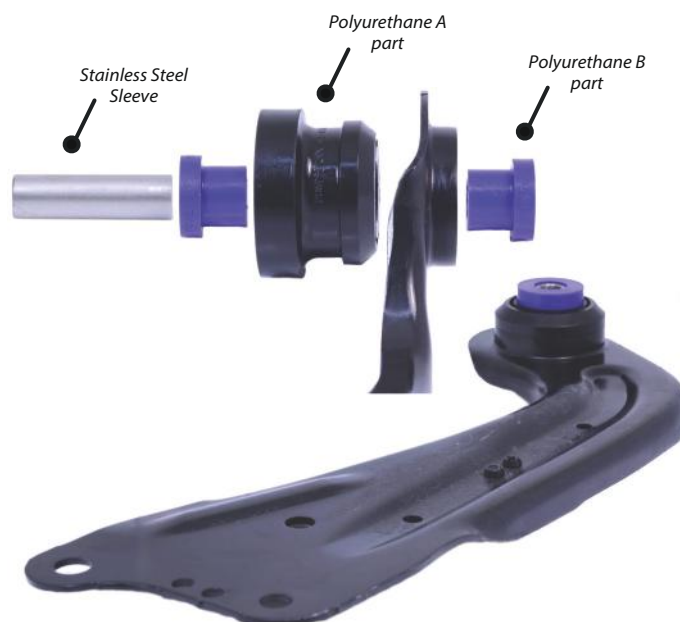

Figure 1
4. Fit the polyurethane part A into the arm, with the smaller diameter facing the outer face of the arm, as shown in figure 1.